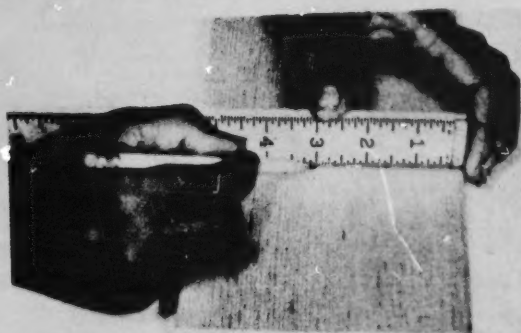

Figure 3-6 Measuring width
1. Using a bench rule and a pencil, mark the exact width of your project part on one end of the board (Figure 3-6).